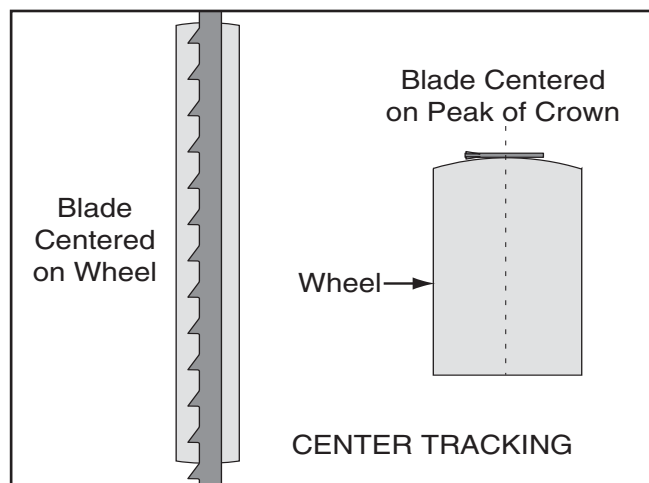

Figure 30. Center tracking profiles.
4. Spin the upper wheel by hand at least three times and watch how the blade rides on the crown of the wheel. Refer to **Figure 30** for an illustration of this concept.